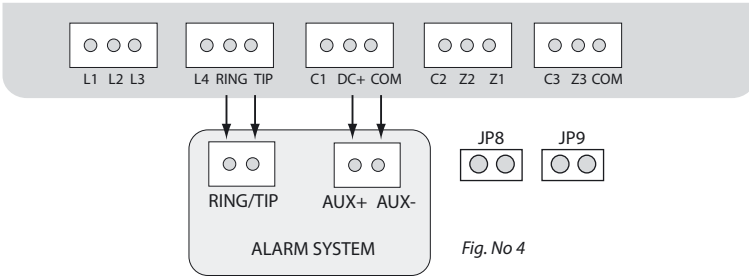

Fig. No 4
1. Connect the circuit as indicated in Fig. No. 4– connect telephone contacts of the alarm system **RING/TIP** to **RING/TIP** contacts of the communicator.